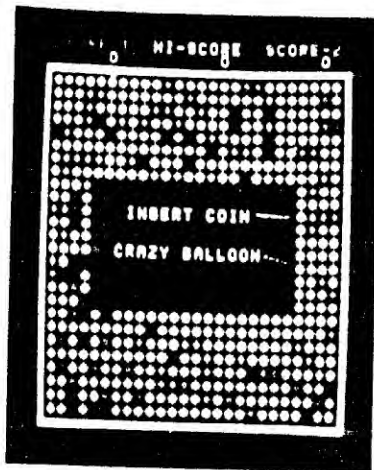

Fig. 14
- ① The characters "INSERT COIN" will flash and, except for the center part, the field will be filled with thorns (Fig. 14).